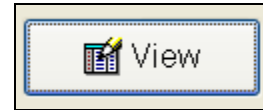

Figure 11.3.1
1. Click on the **View** button above the calendar (Figure 11.3.1).